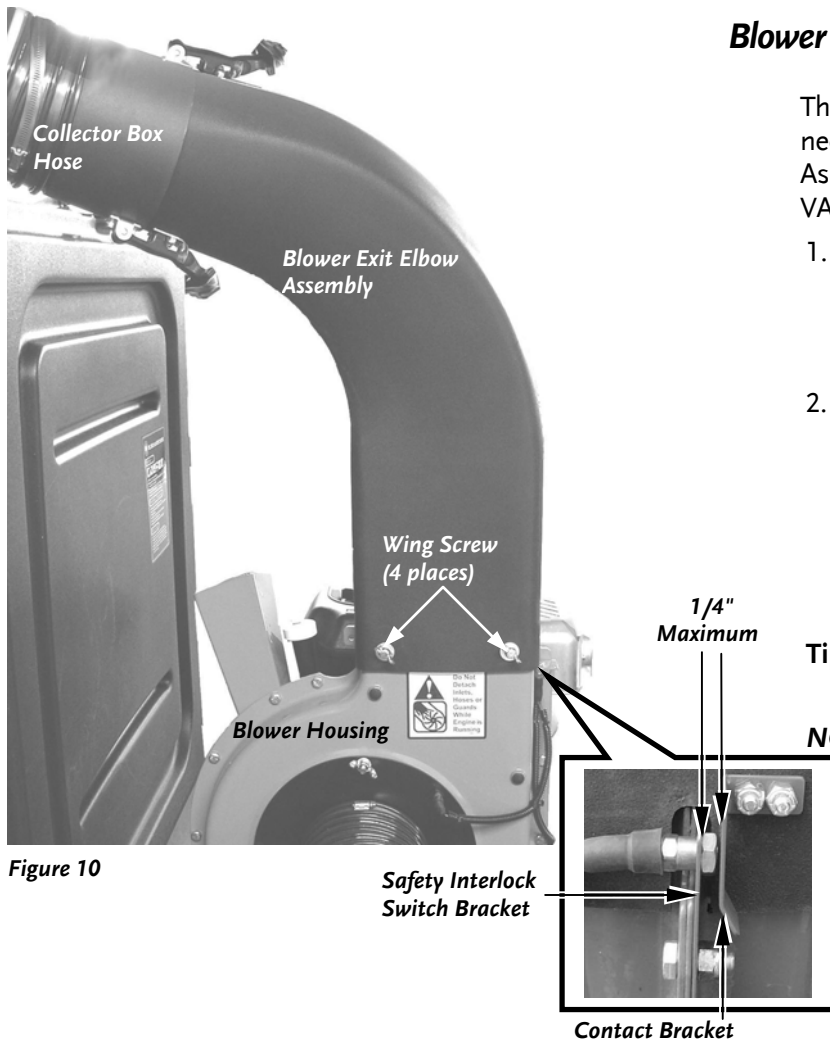

Figure 10
1. Install the Blower Exit Elbow Assembly on top of the Blower with the Elbow pointing toward the Collector Box (**Figure 10**).
2. Align the Hood of the Blower Exit Elbow Assembly to ensure that the Safety Interlock Switch is engaged, and then install a Lock Washer and Flat Washer over each of the four (4) 5/16" x 1/2" Wing Screws and hand tighten them to the Blower Housing (**Figure 10**).
**Tip:** Start all four (4) Wing Screws before tightening them securely.
**NOTE:** If the Safety Interlock Switch is not engaged (Button fully depressed), the Engine will not start. If the distance between the Contact Bracket and Safety Switch Bracket is greater than 1/4", remove the Blower Exit Elbow Assembly and bend the Contact Bracket to achieve the proper dimension (**Figure 10**).